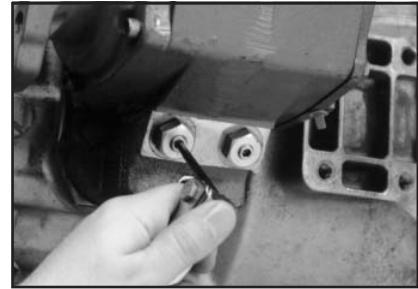

Fig. 6
7. There are two (2) large drilled and tapped holes on the 231 and 271 Series P.T.O. housing (**Fig 6**). These two holes come with plugs installed.